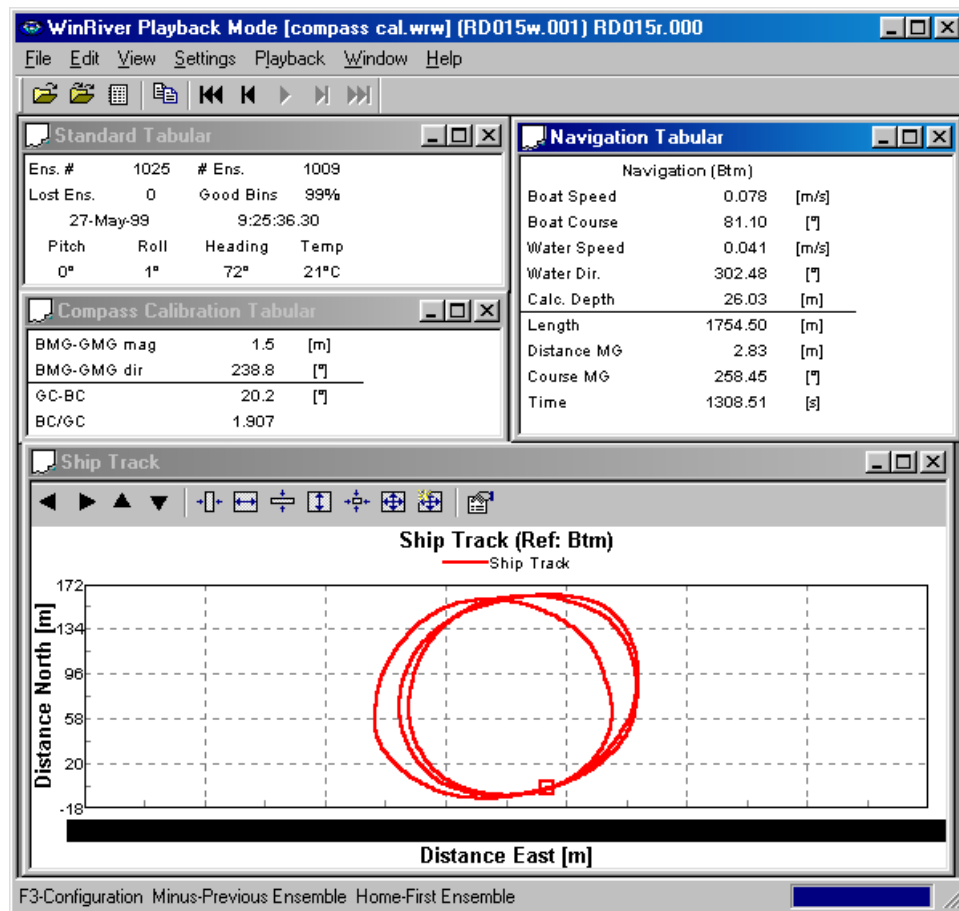

Figure 27. Method 1 Compass Correction Procedure with Correction Applied
- m. Start *WinRiver* in the Playback mode and replay the data using the corrected configuration file. The circle non-closure error as indicated by **Distance MG** should now be minimized (Figure 27, page 73). If the compass has been adequately corrected, the ratio of **Distance MG** to **Length** should be 0.01 or less ($2.83/1754.50 = 0.0016$).